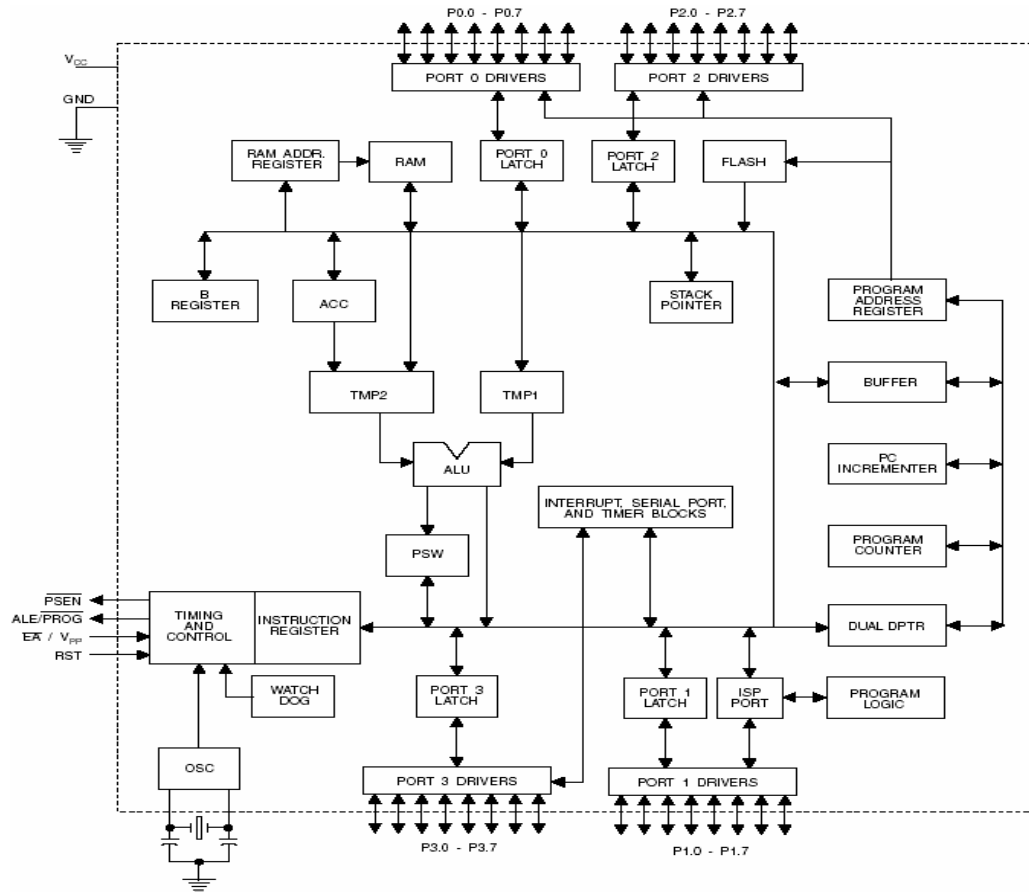

Figure 1.2 : Block Diagram of AT89S52
- Figure 1.2: Block Diagram of AT89S52